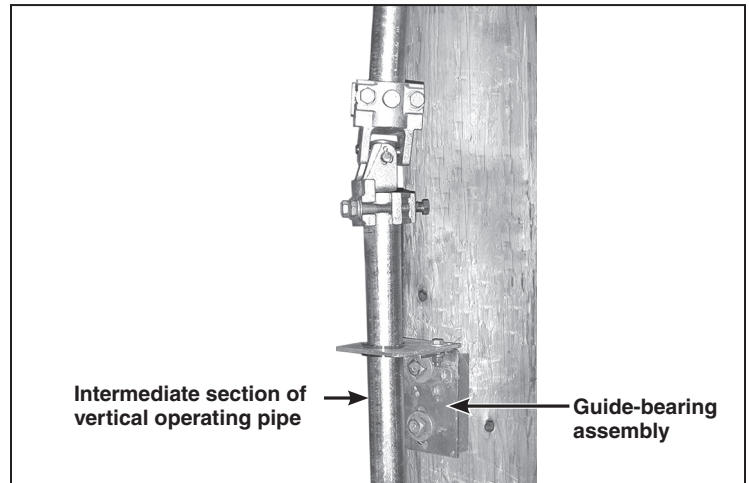

Figure 18. Install the intermediate section of the vertical operating pipe.
STEP 16. Pass the next section of vertical operating pipe up through the guide-bearing assembly and insert it in the universal coupling previously attached to the lower end of the uppermost operating-pipe section. Torque the clamp bolts to final tightness, and then tighten the piercing set screw, piercing the pipe. Continue turning until a firm resistance is felt. See Figure 18.